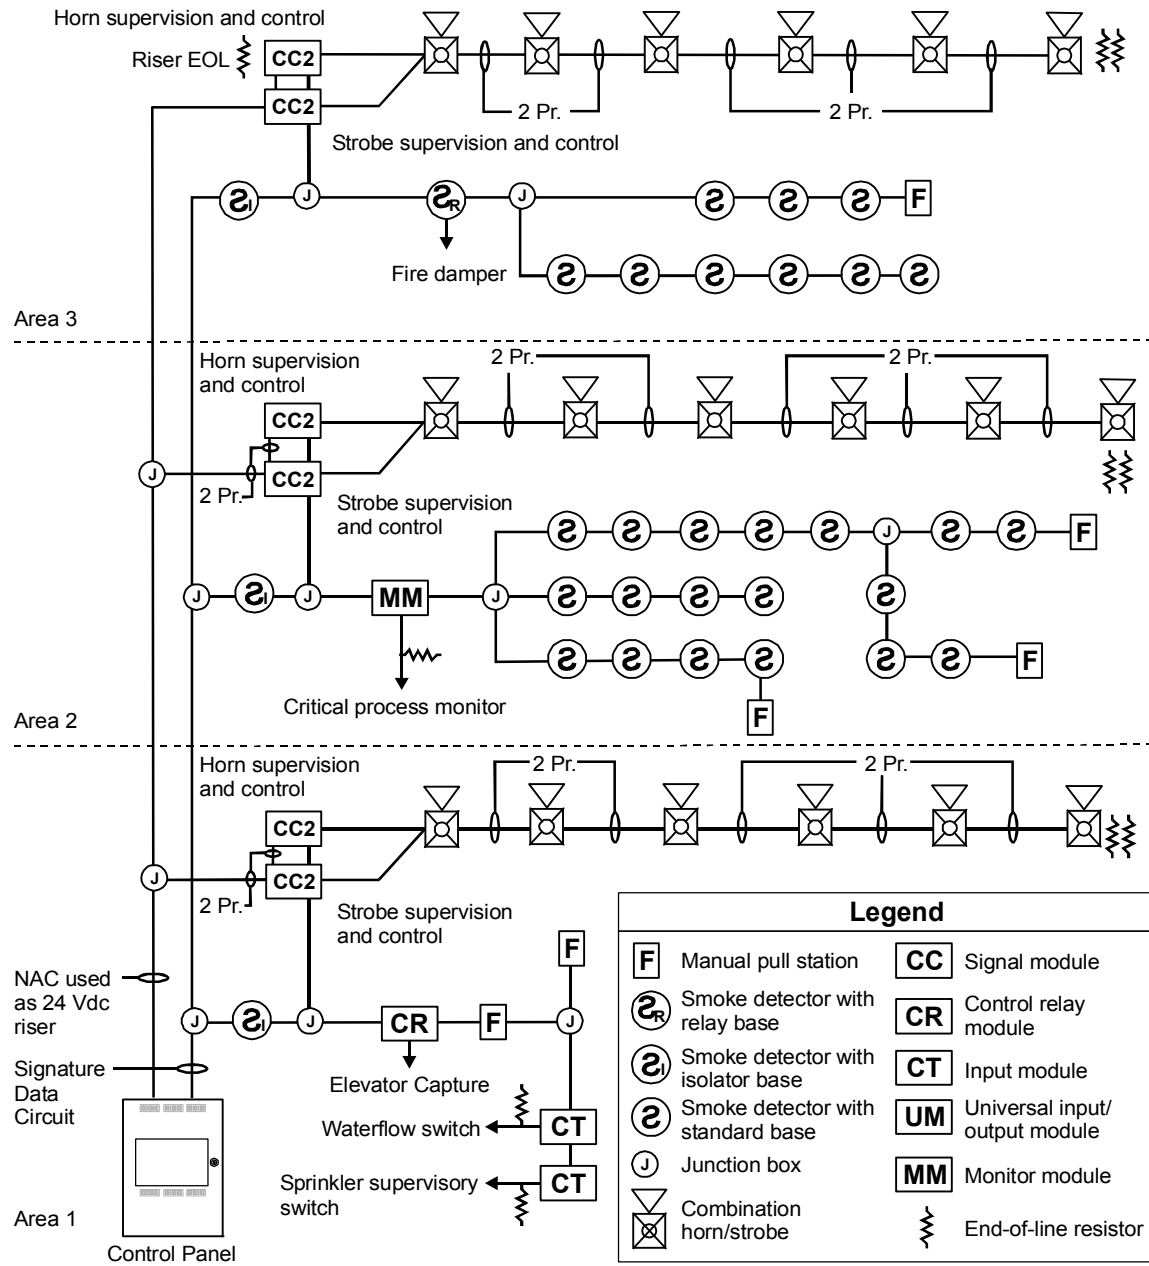

Figure 7: Typical multiplexed switched NAC wiring
- Multiplexed-switched (Figure 7)
- Figure 7: Typical multiplexed switched NAC wiring